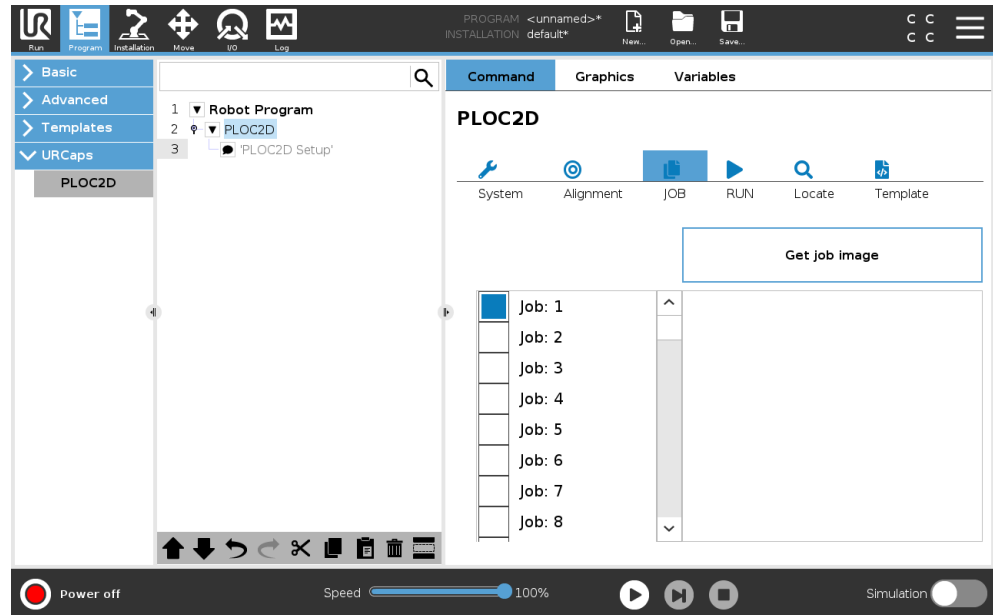

Figure 12: UR Robot user interface, job configuration
1. Optional: Click **Get job image** button to see images of the configured jobs, see figure 12, page 14.